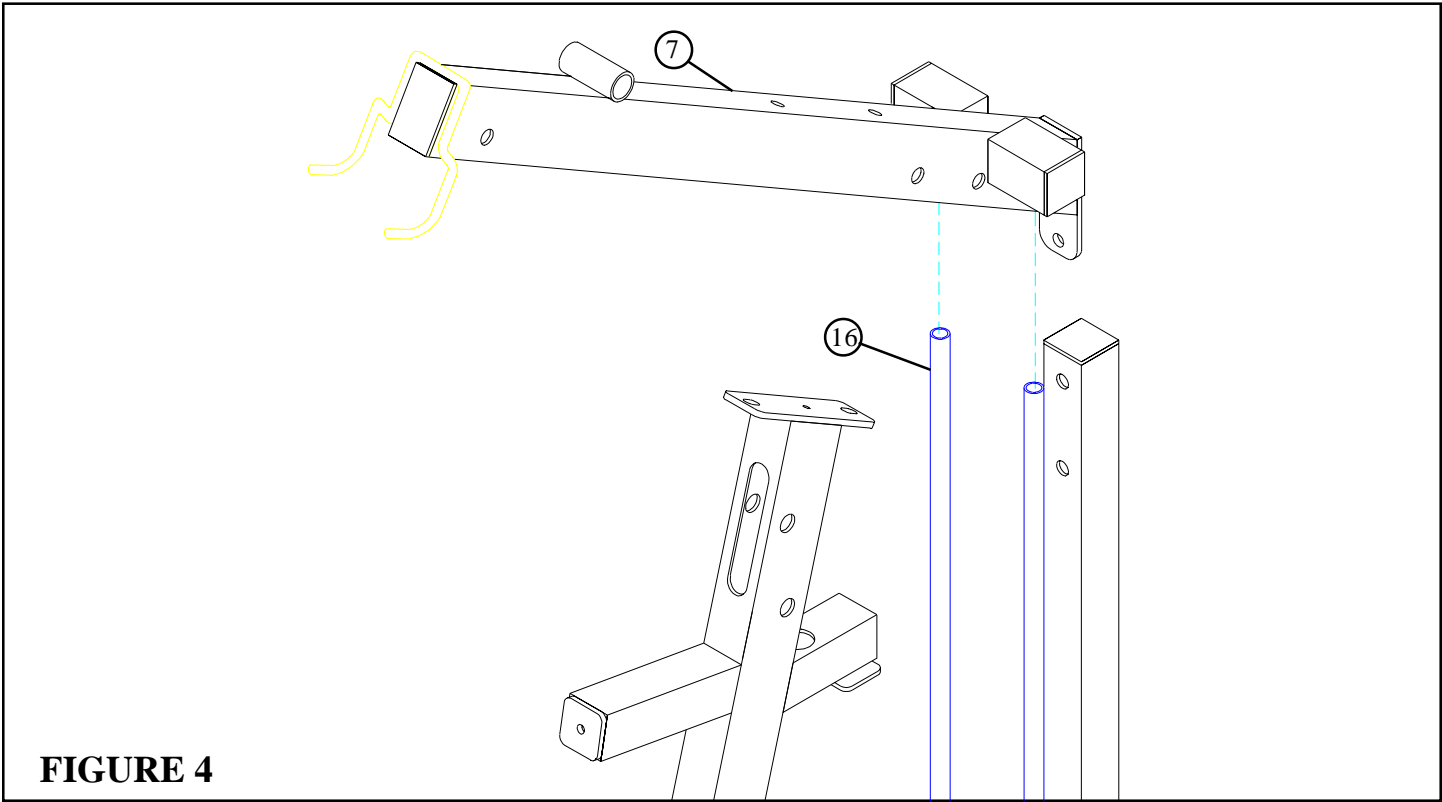

FIGURE 4
- Swing the GUIDE RODS (16) under the TOP BOOM (7) as shown on FIGURE 4.